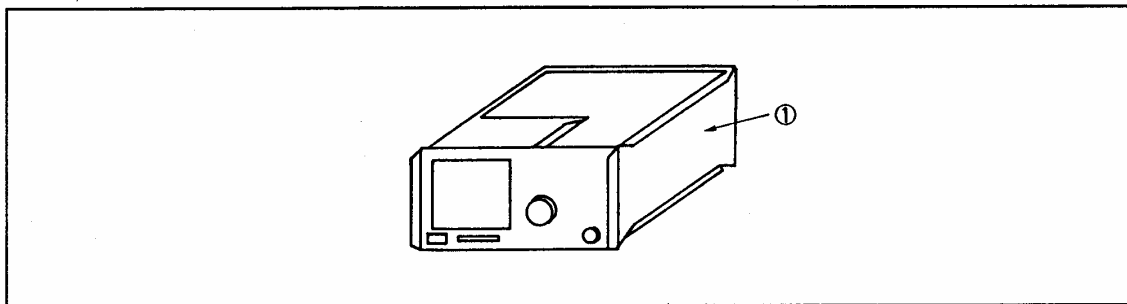
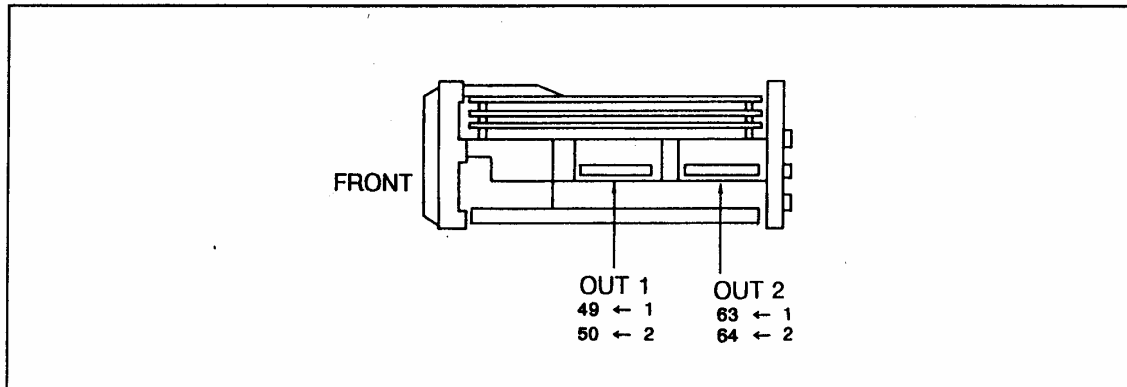

Figure 6-1 Removing Panel
Figure 6-3 Connector and Pin No.
Turn off the power switch and remove the power cable. Remove panel ① shown in Figure 6-1 and remove the output connector from the power supply. Reinstall the power cable and turn on the power switch to check that the rear LED flashes.
Remove panel ① shown in Figure 6-1 and remove the output connector from the power supply. Check if specified voltages are output (see Figure 6-3). Table 6-2 shows connector pin Nos. and output voltages.